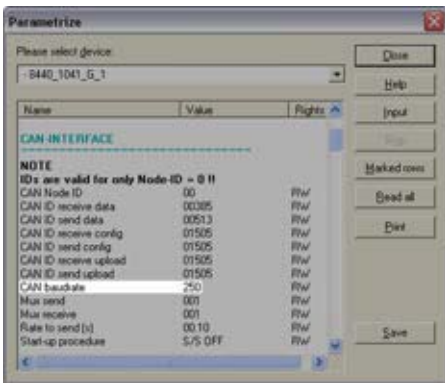

Fig. 187: Baud rate configuration (example LeoPC1)
2. For the first IKD 1 configure the baud rate as shown in (Fig. 187).